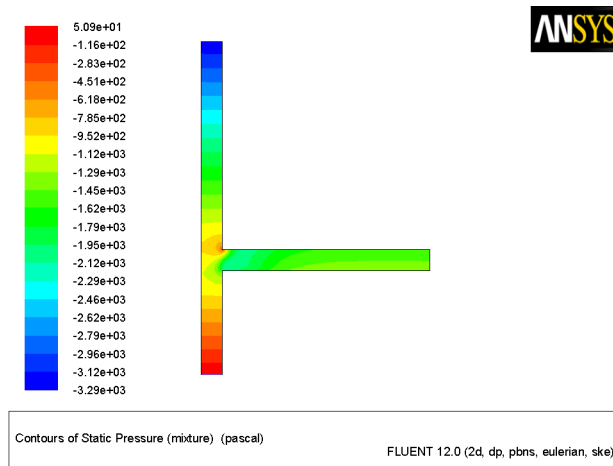

Figure 20.6: Contours of Static Pressure
1. Display the static pressure field in the tee for the mixture (Figure 20.6).